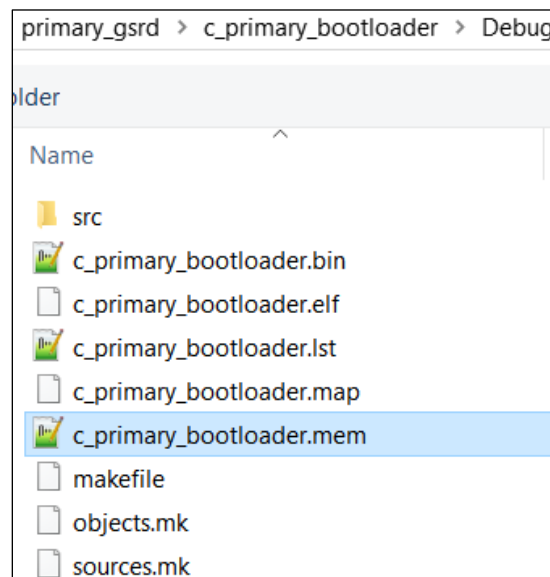

Figure 8.42. Initialize System Memory with c\_primary\_bootloader.mem
- Click on **Initialization File's Value** area with three dots to locate the generated **c\_primary\_bootloader.mem** Bootloader file as shown in Figure 8.42.